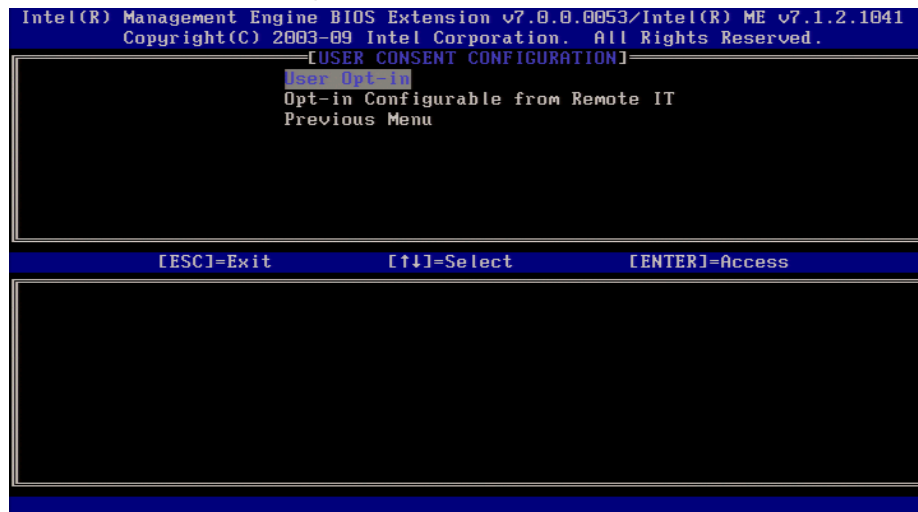

Figure 11. Intel AMT User Consent Configuration Screen
12. User Consent menu (Figure 11).